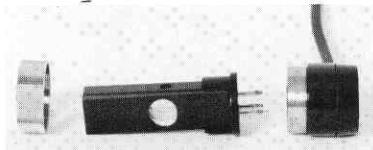

Fig. 69
- (a) Take off the ring of the trigger coil53 and insert the Xenon lamp59 and fix it with the ring (See Fig. 69)